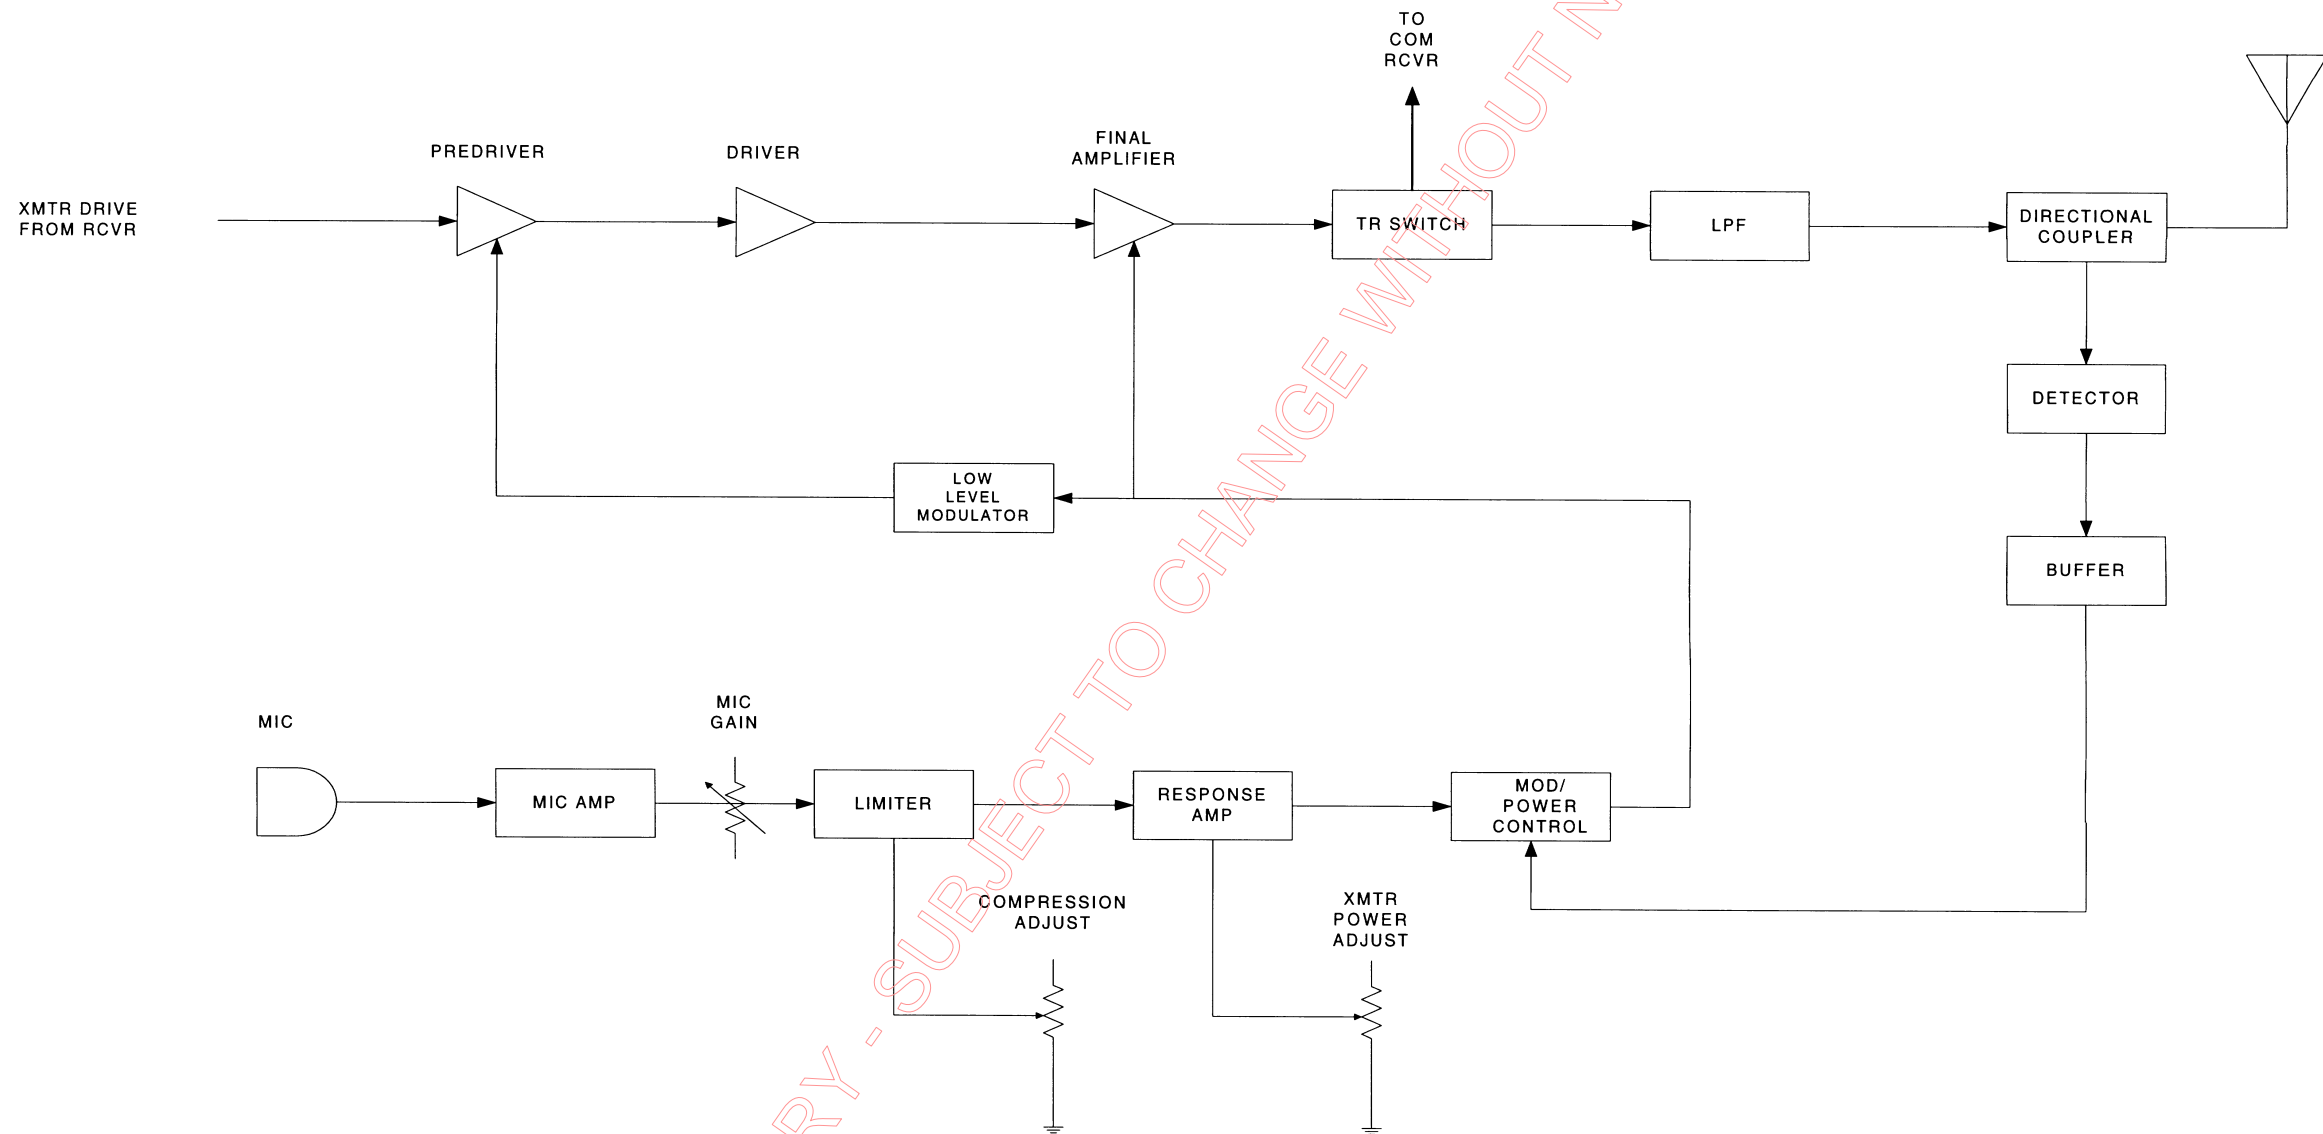

Figure 4-3 Transmitter Block Diagram
The transmitter produces an amplitude modulated (AM) signal within the COM BAND frequency range of 118 to 137 MHz. The output power of the signal at the COM ANT is 10 watts minimum. Refer to figure 4-3 for the following description of the transmitter.